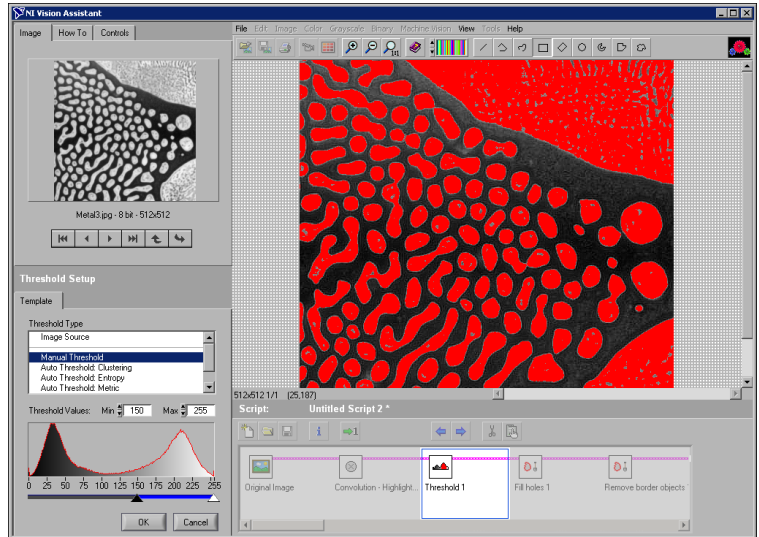

Figure 3-7. Testing the Particle Analysis Script
5. Double-click the Threshold step in the script window to open the threshold parameters. Figure 3-7 shows `Meta13.jpg` at the thresholding step of the script.